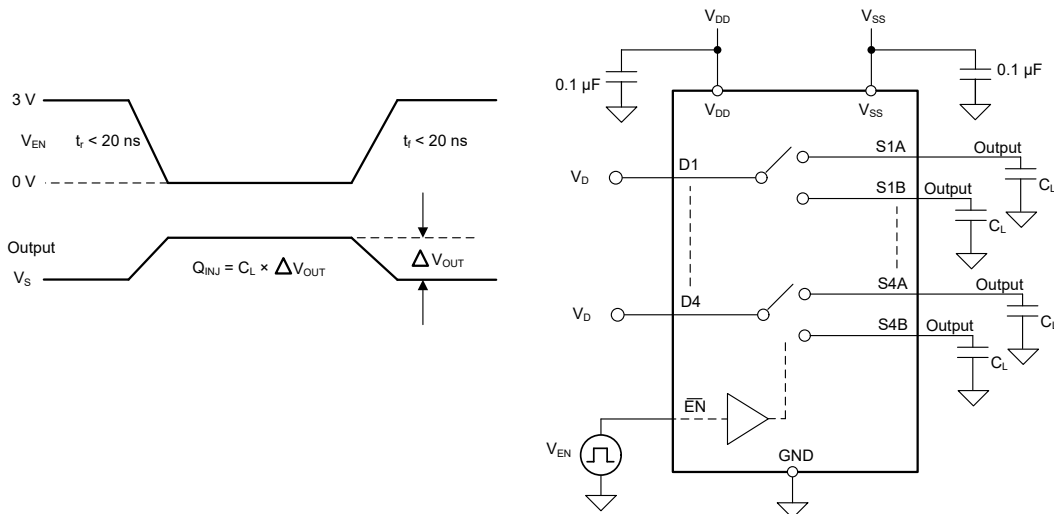

图 6-9. Charge-Injection Measurement Setup
The TMUX7234 has a transmission-gate topology. Any mismatch in capacitance between the NMOS and PMOS transistors results in a charge injected into the drain or source during the falling or rising edge of the gate signal. The amount of charge injected into the source or drain of the device is known as charge injection, and is denoted by the symbol Q_{INJ} . 图 6-9 shows the setup used to measure charge injection from source (S_x) to drain (D).